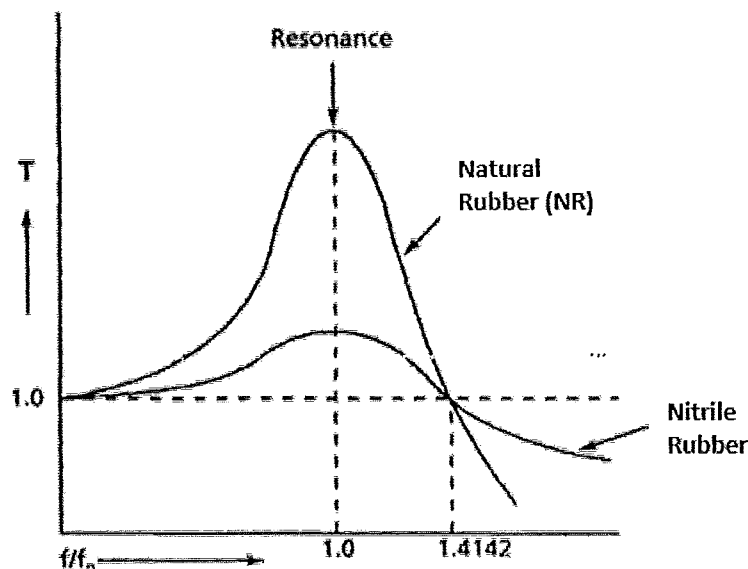

Figure 2: Transmissibility curves of Natural Rubber and Nitrile Rubber
- (c). Figure 2 shows transmissibility curves of Natural Rubber and Nitrile Rubber. Explain the important of transmissibility parameter and discuss how the types of rubber will influence the transmissibility.